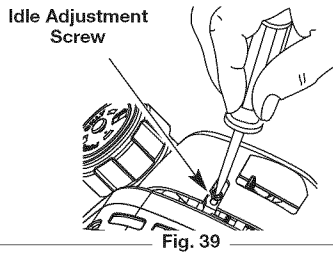

Fig. 39
The idle speed of the engine is adjustable. An idle adjustment screw is between the air filter cover and the engine starter housing (Fig. 39).
2. Release the throttle trigger and let the engine idle. If the engine stops, insert a small phillips or flat blade screwdriver into the hole in the air filter/muffler cover (Fig. 39). Turn the idle speed screw in, **clockwise**, 1/8 of a turn at a time (as needed) until the engine idles smoothly.